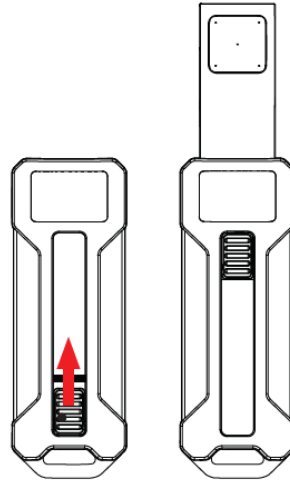

Figure 5-5: Extending the reference standard
Step 7: Once the Fido X4 has displayed a result, you can select **OK** to acknowledge the response and return to the main menu or select **Info** to display information about the sample (see Figure 5.5).